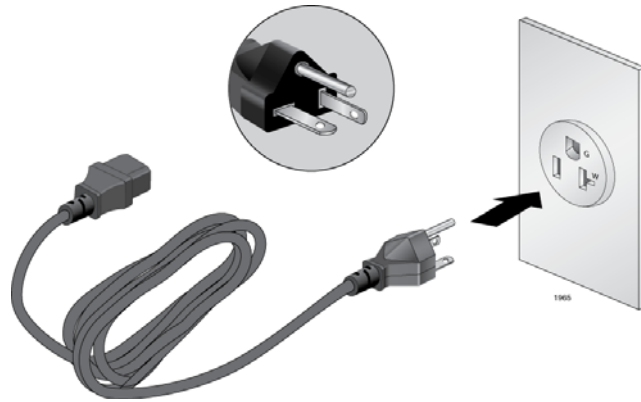

Figure 26. 100 - 125 VAC 125 V NEMA 5-20 Plug and Receptacle
- The power cords provided with the AT-SBxPWRSYS1 and AT-SBxPWRPOE1 Power Supplies for 100-125 VAC installations have 20 Amp, 125 V NEMA 5-20P plugs. The plugs are only compatible with NEMA 5-20R receptacles. See Figure 26 on page 87.